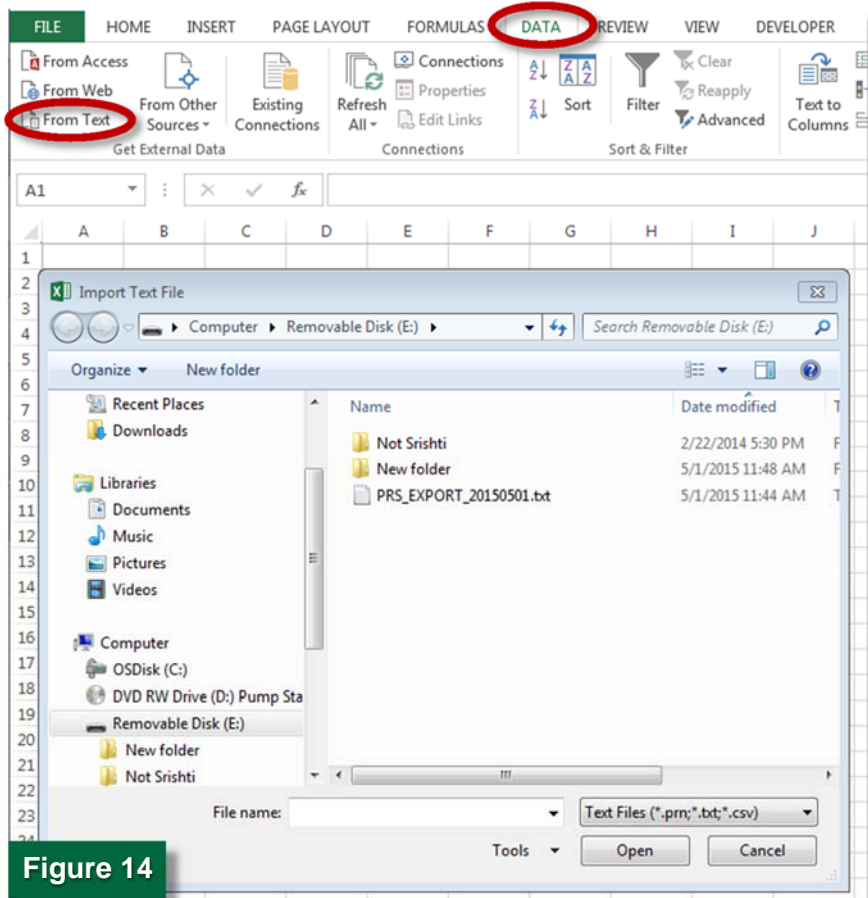

Figure 14
2. In Excel, under the **'Data'** tab, click **'From Text'** (Figure 14).